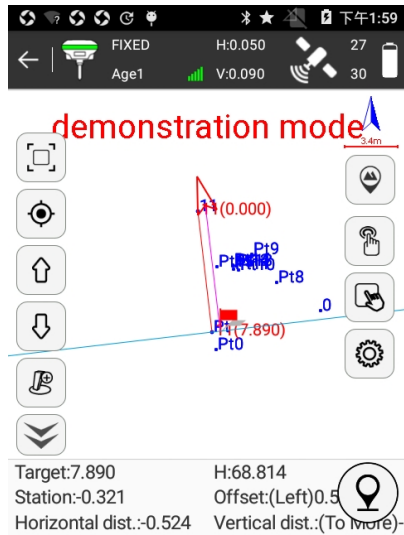

Figure 5.15-1
Press [Survey]-> [Existing Stakeout] and select an existing line to stakeout as shown in Figure 5.15-1.
- (1) Enter Stake Existing Lines and set start line or import line files.
- (2) Select target line and press [OK] to enter stakeout interface as shown in Figure 5.15-1. The normal line is generated at the center point, which is conducive to measuring cross section. The